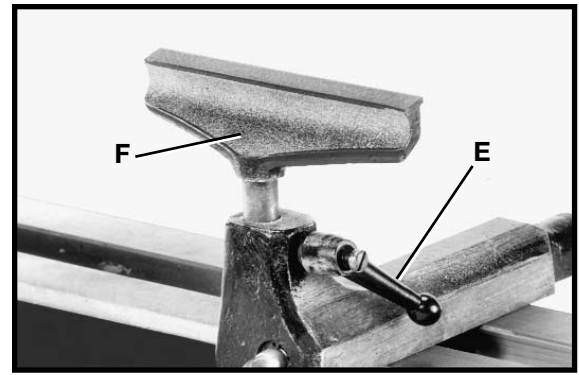

Fig. 7
3. Loosen locking lever (E) Fig. 7, and insert tool rest (F) into the tool rest base. **NOTE:** The height of the tool rest can be adjusted up or down as needed. Tighten locking lever (E).